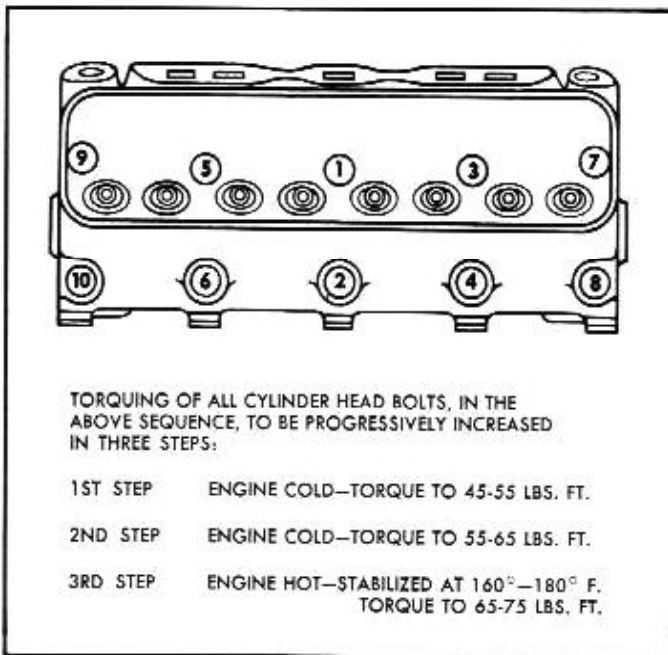

Fig. 6A-124—Torque Sequence and Valves
- 36. Install cylinder head screws and make three torque applications using recommended sequence, (see figure 6A-124) in the following manner: